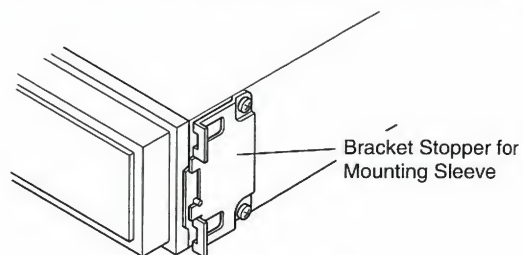

Fig. 1
1. The bracket stopper is already mounted. (Fig. 1)